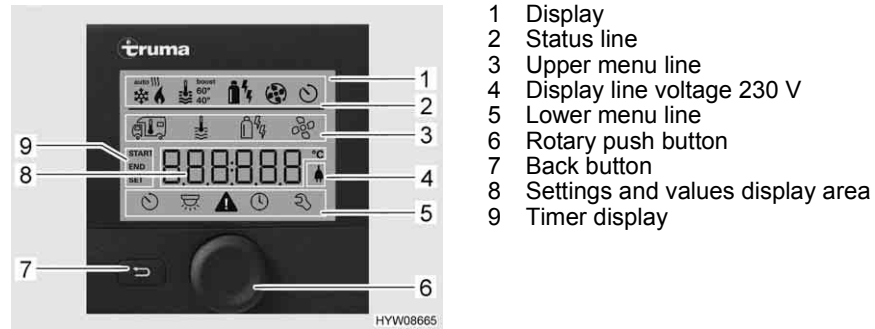
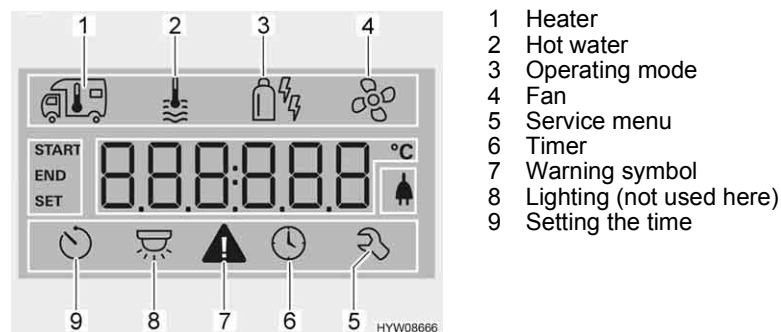

Fig. 181 Operating unit with displays
Fig. 182 Display
- Status line (Fig. 181,2)
- Upper menu line (Fig. 181,3)
- Display area (Fig. 181,8)
- Lower menu line (Fig. 181,5)
- Press and hold the rotary push button (Fig. 181,6) for approx. 3 seconds. Both menu lines (Fig. 181,3 and Fig. 181,5) are displayed. The first symbol flashes.
- Turn rotary push button (Fig. 181,6) until the required menu symbol flashes.
- Press rotary push button to save the value set. If you do not wish to change the value originally set: Press back button (Fig. 181,7).
- Turn rotary push button (Fig. 181,6) until the heater menu symbol (Fig. 182,1) flashes.
- Press rotary push button to save the value set. The symbol in the status line (Fig. 181,2) flashes until the room temperature set is reached. If you do not wish to change the value originally set: Press back button (Fig. 181,7).
- Turn rotary push button (Fig. 181,6) until the menu symbol operating mode (Fig. 182,3) flashes.
- Press the rotary push button to save the set operating mode. To revert to the original setting: Press back button (Fig. 181,7).
- Turn rotary push button (Fig. 181,6) until the fan menu symbol (Fig. 182,4) flashes.
- Turn rotary push button (Fig. 181,6) until the timer menu symbol (Fig. 182,6) flashes.
- Press rotary push button. The timer is activated. The timer symbol (Fig. 182,6) flashes when the timer is programmed and active.
The warning symbol (Fig. 182,7) flashes in the event of a warning. The heater continues to operate. In the event of only a temporary fault, the warning symbol goes out automatically.